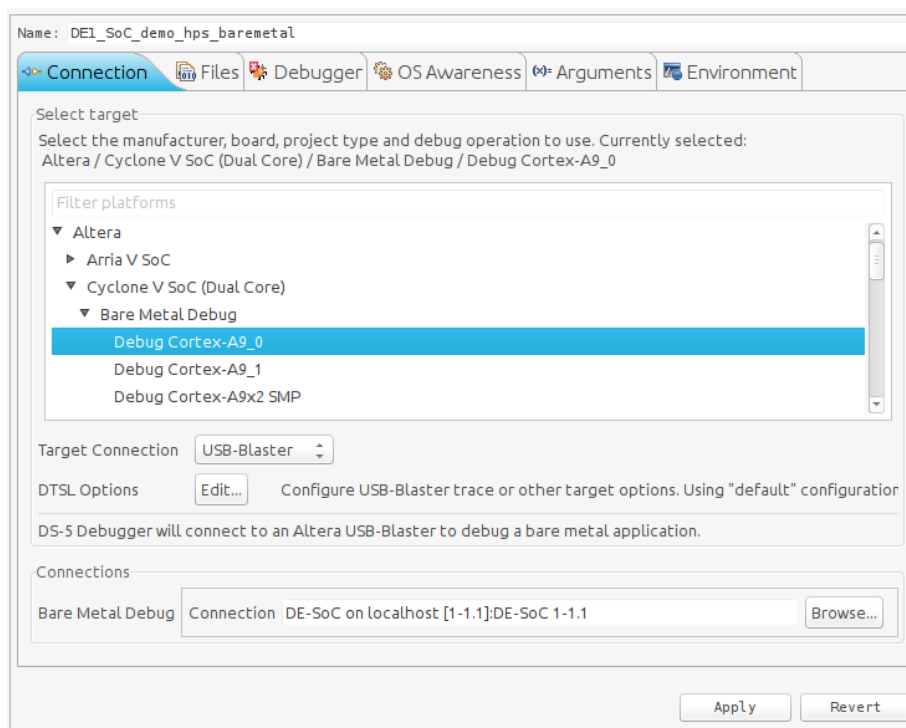

Figure 12-5. Debug Configuraton “Connection” Tab
- d. You should have something similar to Figure 12-5.